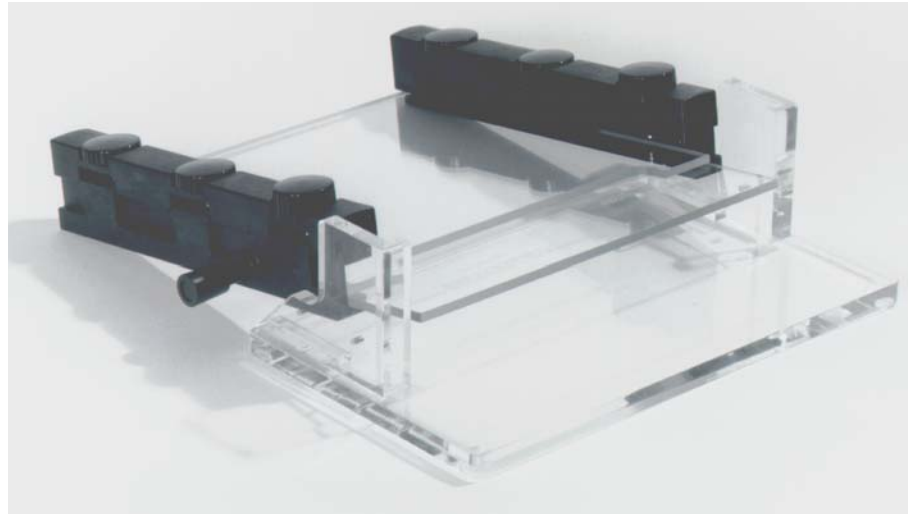

Figure 2-6. Rest the apparatus on the casting stand (25 cm plates).
4. For 25 cm gels, a notch on the back of each rail that allows the apparatus to rest on the uppermost metal posts on the casting stand (Figure 2-6). This slight incline improves the flow of the gel between the plates.